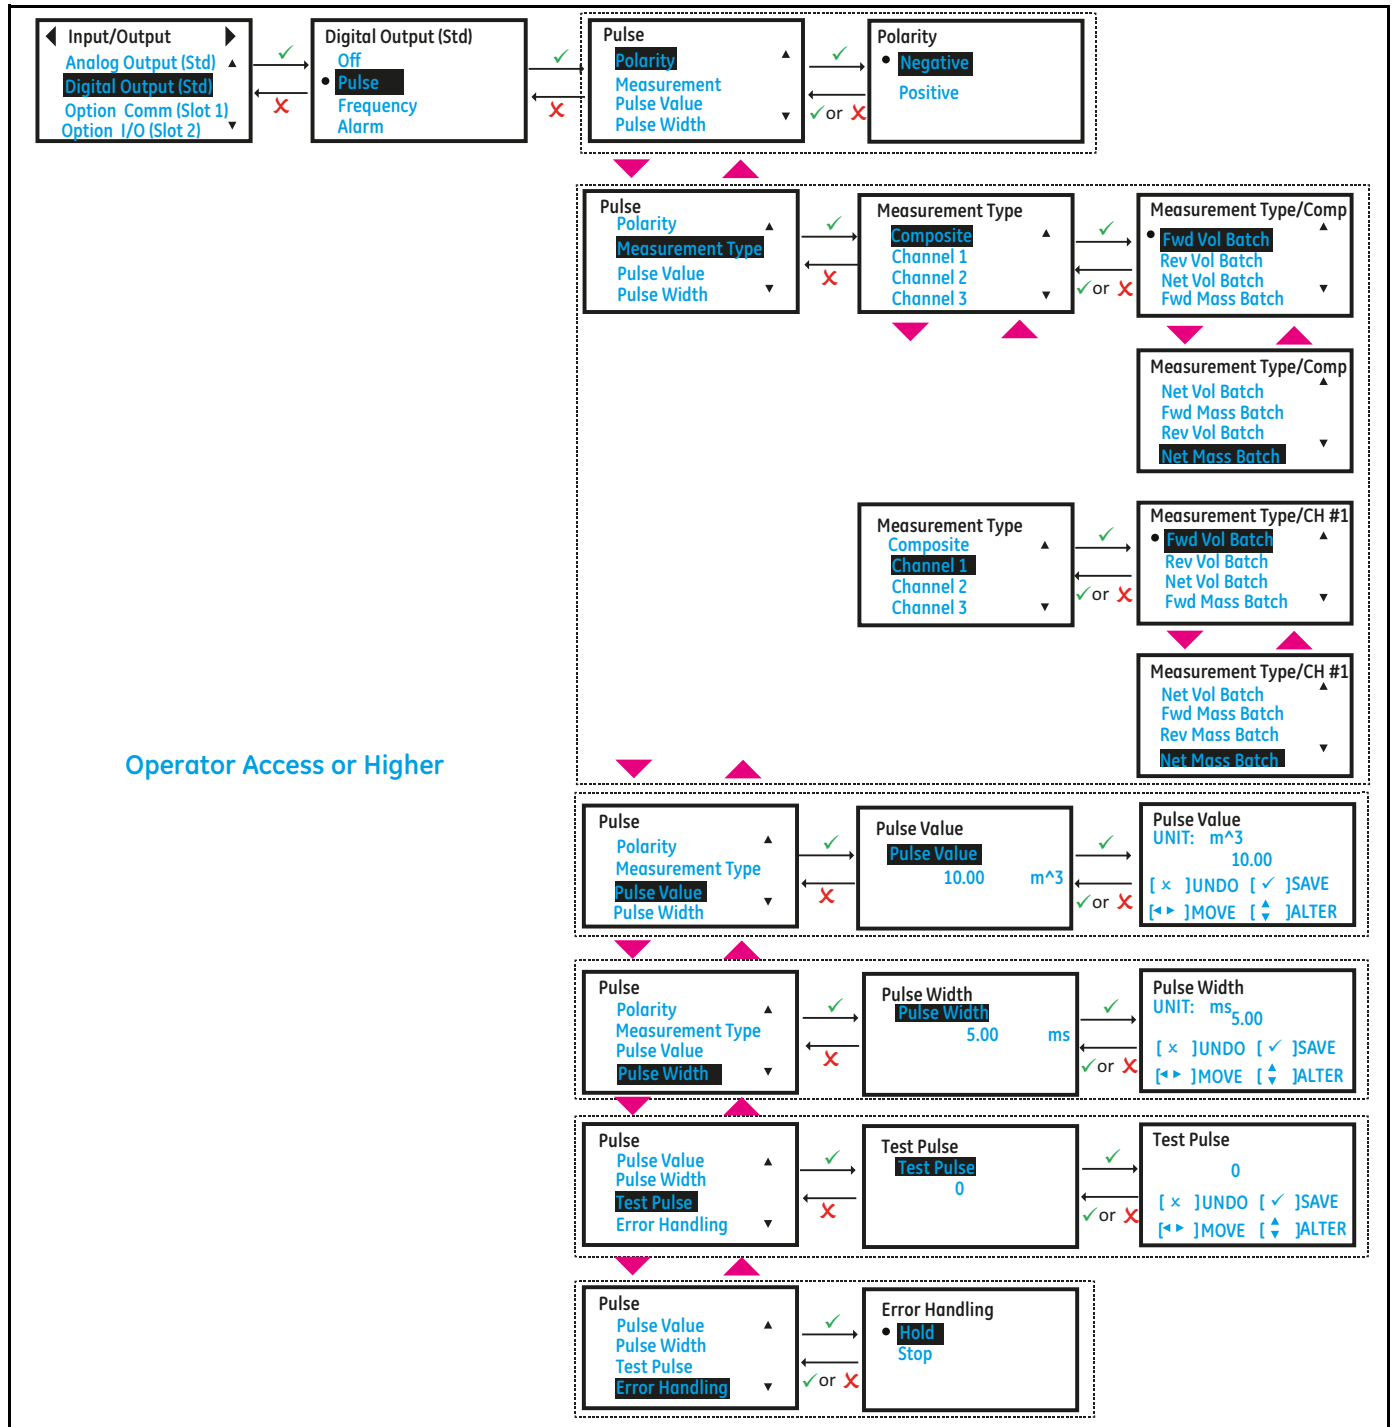

Figure 24: Setting up Pulse Output
2. Setup the **[Polarity]**, **[Measurement]**, **[Pulse Value]**, **[Pulse width]** and **[Error Handling]** options to suit your needs. The Figure 24 below, shows the available options. Also refer to the Table 5 below to understand each option.